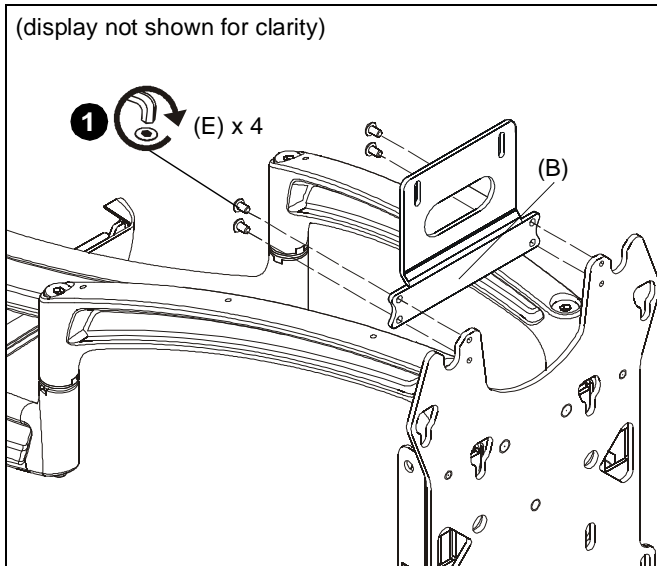

Figure 1
1. Use four #10-24 x 1/4" button head cap screws (E) to connect attachment bracket (B) to upper holes on swing arm faceplate. (See Figure 1)